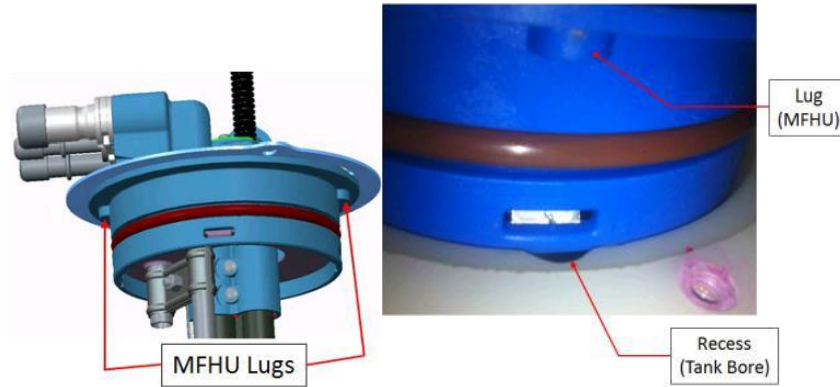

Figure 5.1
- Reference Figure 5.1 and 5.2.